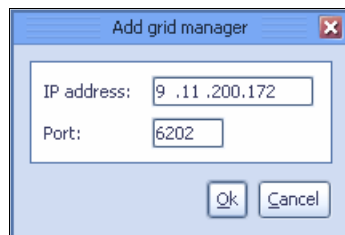

Figure 5-96 ProtecTIER Replication Manager entering the IP of the first node
- Enter the IP address of the node that you want to add. This is the external IP address of the node (Eth0). In our example, this is IP address 9.11.200.172 (Figure 5-96).